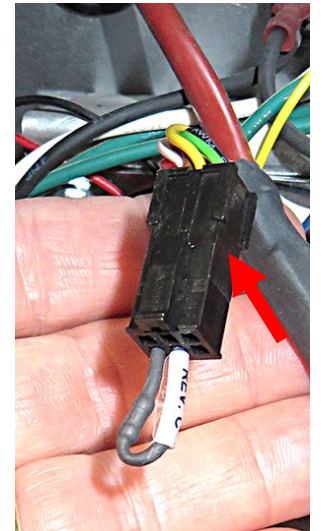

Figure 17
- 21. The OQS harness has two (2) connectors; a female and male. Connect the 6-pin 8074552 terminator to the female connector (see Figure 17).